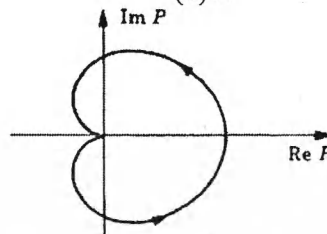

Fig. 7
17. The number of poles P_0 enclosed by the Nyquist plot of a system in Fig.7 and with $Z_0 = 0$ is